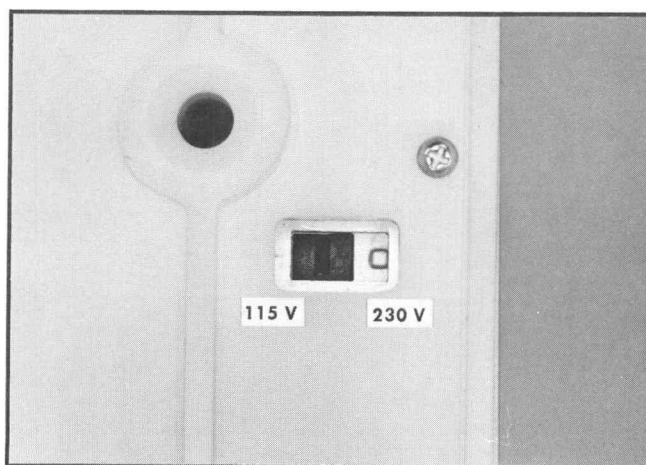

Fig. 2-2. Location of Line-Range switch.
The Line Voltage Range switch is the two position slide-type switch recessed into the front of the battery pack. This slide switch selects either 115 or 230 volt line operation. See Fig. 2-2. The range of operating voltage is given in Section 1.
4. Set the Line-Range switch, (slide-type switch recessed in the front of the battery pack) Fig. 2-2, to the appropriate line voltage range, 115 or 230 volts. In most cases the line-frequency is 50 or 60 Hz. However, as noted in Section 1, the instrument will operate at all line frequencies from 48 to 440 Hz without modification or control changes.